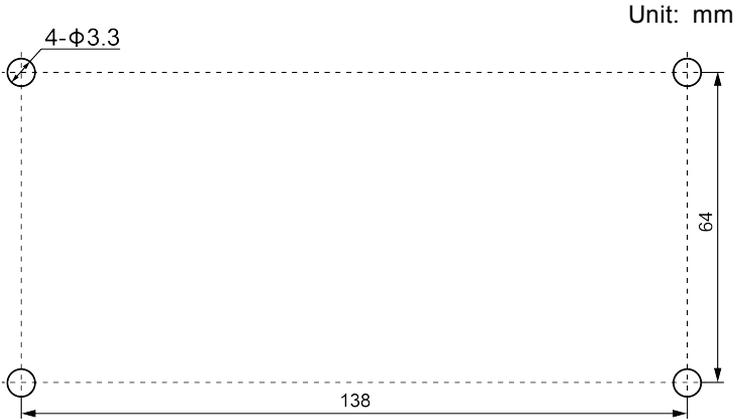

Fig. 3.8 Installation Holes of the Electric Box Rear Cover
- 2) In case that the centralized controller is installed inside the control cabinet, dig 4 installation holes on the surface of the control cabinet according to fig.3.8.
- (4) In step ①, pull out the power core and communication cord, and then lead them separately from the wire orifice of the electric box rear cover. Never lead the cords through a same orifice.
- (5) In step ②, locate the electric box rear cover to the installation holes of the wall with screw ST4.2×16 FA.
- (6) In step ⑥ pull out the wire connecting the touch screen and controller's rear cover. Put the touch screen on a safe place.
- (7) In step ⑦, connect the communication cords to G1, G2 terminals, and connect the shielded layer of twisted pair line to , and connect the